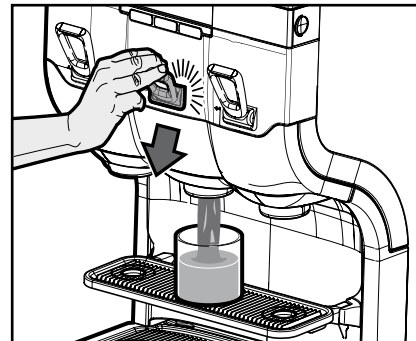

Fig. 13
2. Pull the delivery handle of your choice (fig. 13).